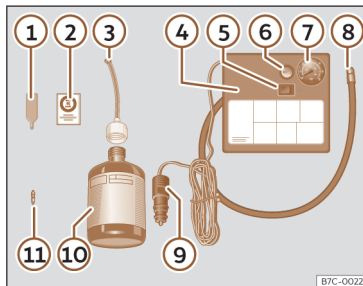

Fig. 241 Standard display: contents of the anti-puncture kit.
>>> **Fig. 241:**
- Unscrew the tyre valve cap and insert. Use the device >>> **Fig. 241 ①** to remove the valve cap. Place it on a clean surface.
- Shake the tyre sealant bottle vigorously >>> **Fig. 241 ⑩**.
- Screw the tyre inflation hose >>> **Fig. 241 ③** into the tyre sealant bottle. The bottle's seal will break automatically.
- Remove the filler cap >>> **Fig. 241 ③** and screw the open end of the tube into the tyre valve.
- Replace the howitzer with the device >>> **Fig. 241 ①** onto the tyre valve.
- Screw the tyre inflation tube of the compressor >>> **Fig. 241 ⑧** on the tyre valve.
- Check that the air evacuation screw is closed >>> **Fig. 241 ⑥**.
- Attach the connector >>> **Fig. 241 ⑨** to the vehicle's 12 volt power outlet >>> page 254.
- Switch on the air compressor with ON/OFF switch >>> **Fig. 241 ⑤**.
- Attach the sticker >>> **Fig. 241 ②** to the instrument panel display, within the driver's field of vision.
Screw in the inflator tube >>> Fig. 241  again and check the pressure on the gauge .